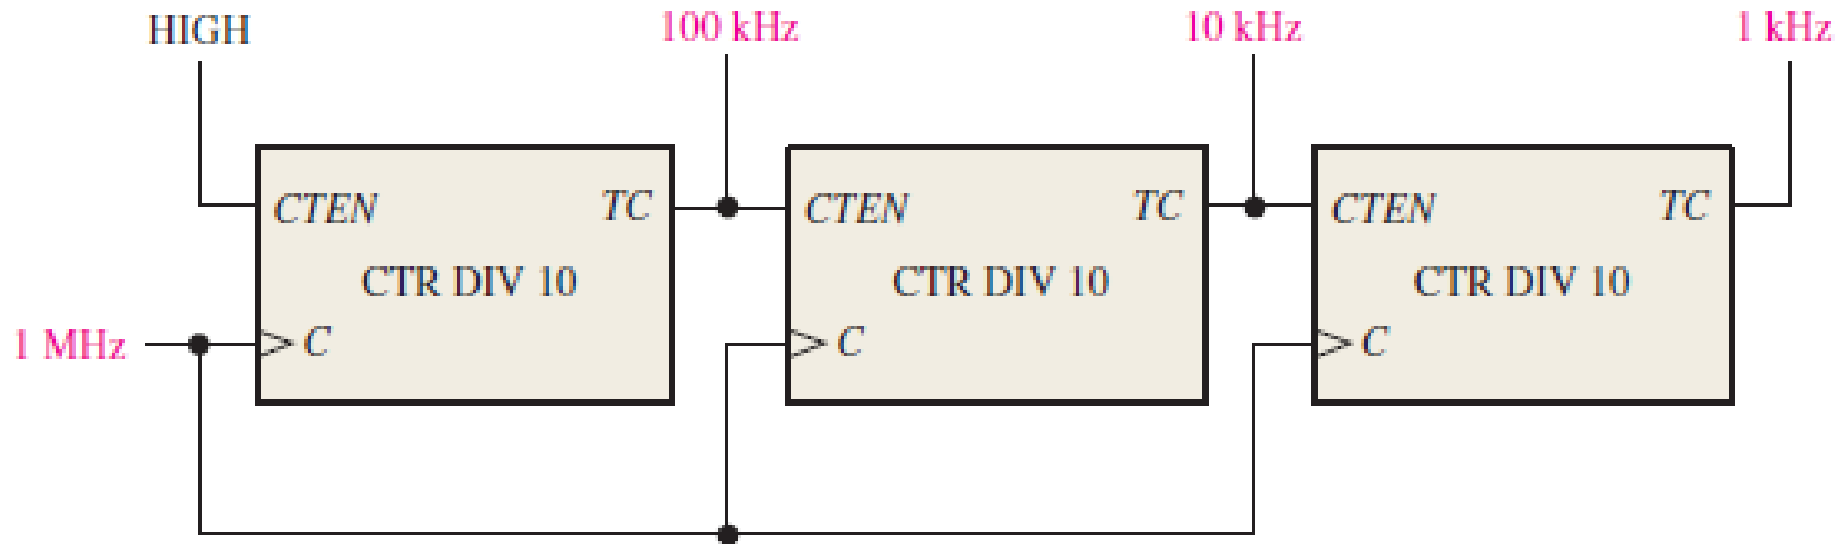

FIGURE 4 Three cascaded decade counters forming a divide-by-1000 frequency divider with intermediate divide-by-10 and divide-by-100 outputs.
- General implementation of this countdown chain is shown in Figure 4.